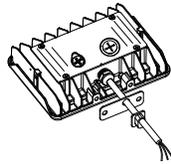

Figure 1-1
- Pass the input cable of the fixture through hardware and gasket mat (Figure 1-1).